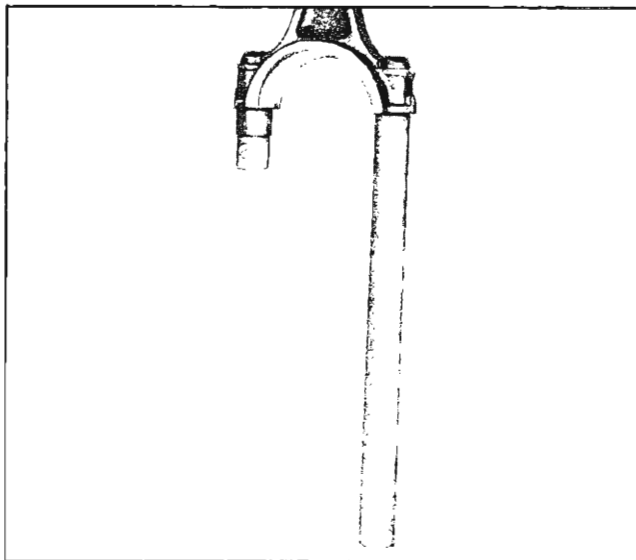
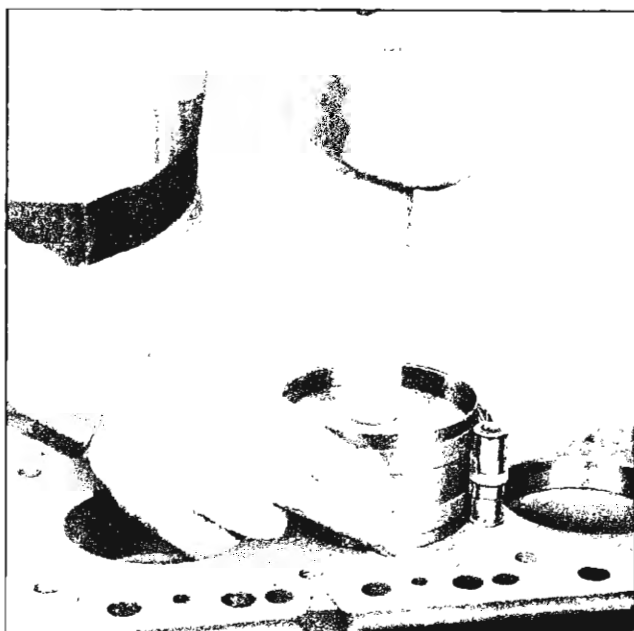

Fig. 66—Guide Tool installed
Fig. 67—Installing Piston in Cylinder
3. Be sure ring gaps are spaced around piston, then install each piston in its respective bore, using Tool J-5239 on each assembly (fig. 67). The side of the piston with the cast notch in the top edge of head should be to the front of the cylinder block and the oil hole on connecting rod towards the camshaft side of the engine. Guide the connecting rod bearing into place on the crankshaft journals with the long detail of Tool J-5239 (fig. 66).